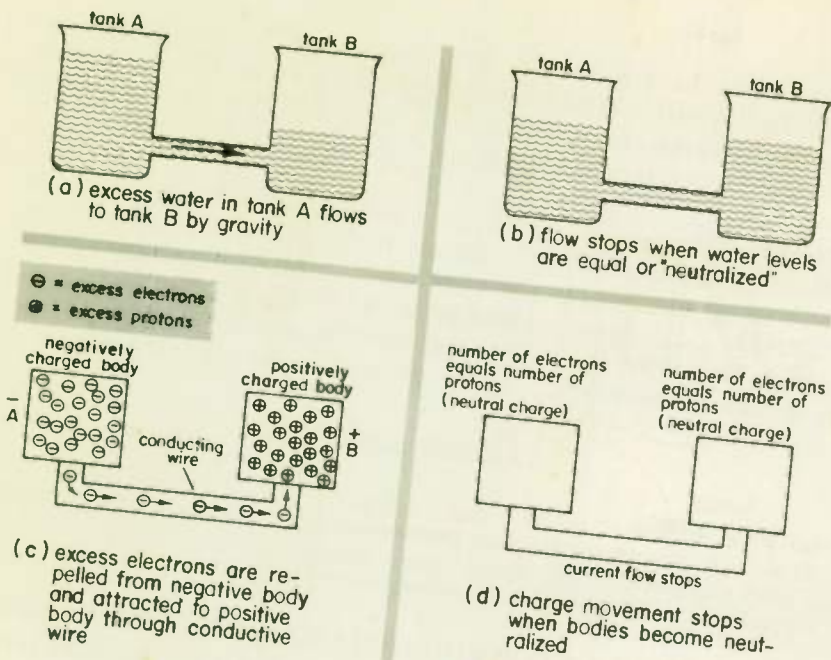
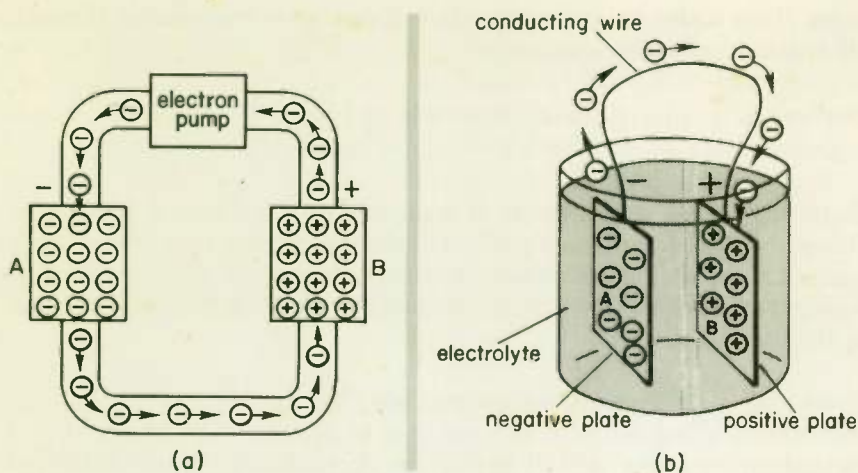

Fig. 9 Illustrating the movement of charge (current flow).
Fig. 10 An electron pump keeps charges on the bodies so that there is a continuous current flow. A battery is an electron pump.
4 CHARGE MOVEMENT THROUGH A CONDUCTOR . . . The movement or flow of electricity (charge) from one point to another is called an electric current. Moving charge from one point to another by means of a conducting wire is similar to moving water from one point to another by means of a pipe. In Fig. 9(a) water is shown moving from tank *A* to tank *B* by means of the connecting pipe. In Fig. 9(c) the electricity moves from one charged body to the other by means of the connecting wire. Neither the water nor the electricity will move, however, unless there is a pushing or pulling action to cause the movement. Gravity provides the force in Fig. 9(a). The attraction between opposite charges and the repulsion between like charges provides the force in Fig. 9(c).
The negative charge on the left-hand body of Fig. 9(c) is due to there being more electrons than protons in that body. Electrons, being extremely light in weight, tend to be mobile. Some of them, called *free electrons*, readily move around in certain materials, particularly metals. When a metal wire is connected between two charged bodies, as shown in Fig. 9(c), free electrons, being negatively charged, are repelled into the connecting wire by the negative charge on the left-
Water flow from tank A to tank B stops, as shown in Fig. 9(b), when the levels become equal or "neutralized." The movement of charge stops, as shown in Fig. 9(d), when the left body loses its excess electrons and the right body gains enough electrons that it no longer has an excess of protons. When both bodies are neutralized (that is, uncharged), there are no longer any forces of either attraction or repulsion to cause a movement of electrons along the wire.
5 PRODUCTION OF A CONTINUOUS CURRENT . . . In the circuit of Fig. 9(c) current flow lasts only a fraction of a second or so after the wire is connected between the two charged objects. As soon as the excess electrons are drained from the negatively charged body and gained by the positively charged body, both bodies lose their charge and current flow ceases.
Figure 10(a) is the same as Fig. 9(c) except that an electron pump has been added. As fast as electrons leave charged body *A* through the wire at the bottom, more electrons are pushed back onto the plate by the action of the pump. Similarly, electrons are pumped off body *B* as fast as they can arrive. As a result, body *A* stays negatively charged, body *B* stays positively charged, and there is a continuous current flow through the conducting wire.
A battery is one example of an electron pump. It consists of two plates, one positively and one negatively charged, that are immersed in a chemically active liquid or paste, called the *electrolyte*, as shown in Fig. 10(b). The battery plates, *A* and *B*, correspond to charged bodies *A* and *B* in Fig. 10(a). The action of the electrolyte is to keep
1. Figure 10(a) shows that the action of an electron pump is to move free electrons from the (a) Positively charged plate over to the other plate. The pump must exert force in order to do this, because the free electrons are (b) REPELLED by the plate to which they are being pumped and therefore want to move in the opposite direction.